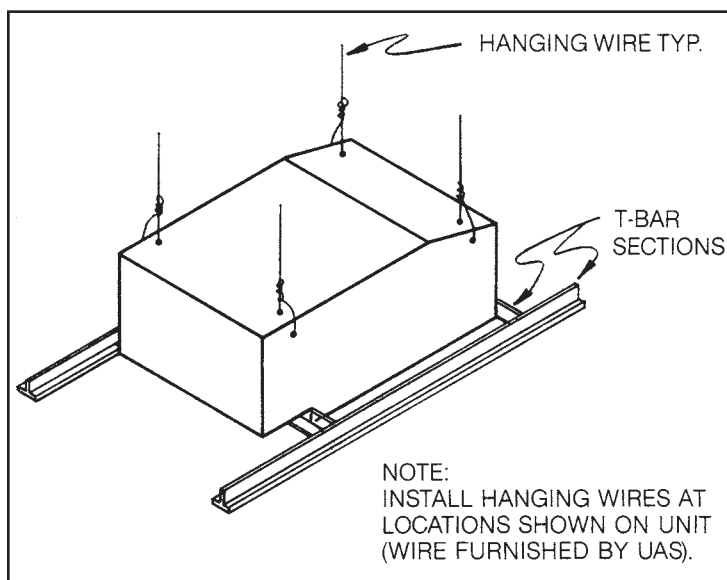

FIGURE 10
- After the cabinet is in place, install hanging wires from each corner of cabinet as shown in Figure 10. Cabinet must be supported from beneath at all times until hanging wires are secured.